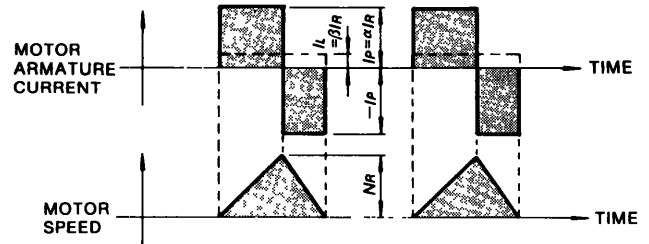

Fig 4.4 Timing Chart of Motor Armature Current and Speed (The motor remains at standstill between cycles of accel/decel without continuous rated speed running)
• When the motor remains at standstill between cycles of acceleration and deceleration without continuous rated speed running (Fig.4.4).
The timing chart of the motor armature current and speed is as shown in Fig.4.4. The allowable frequency of operation "n" can be calculated as follows: